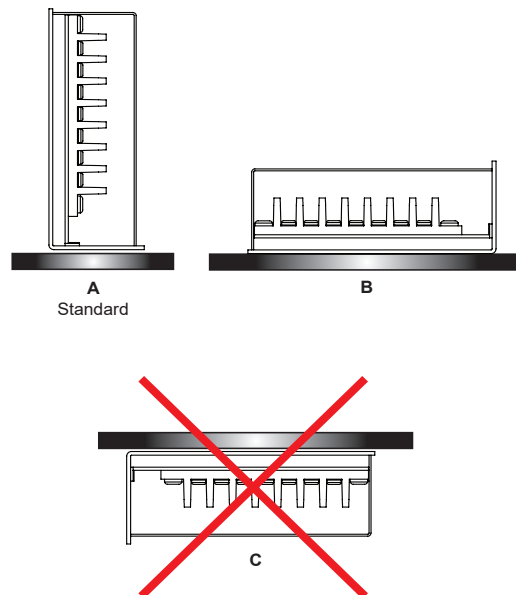

Figure 4. Mounting Options
Figure 4 shows various mounting configurations. The standard method (A) is recommended. Configuration B also works. Do not use configuration C, where the PCB is on the top and heat is trapped within the unit.